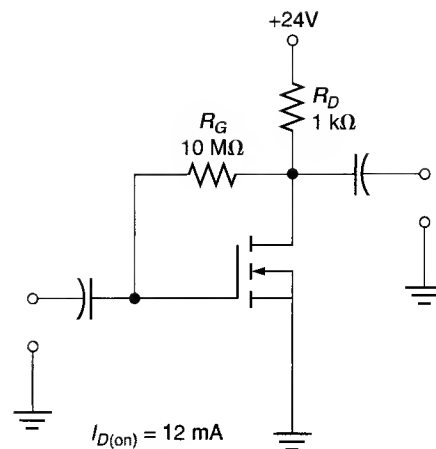

FIGURE 13.30
12. Calculate the values of I_D and V_{DS} for the amplifier in Figure 13.30.